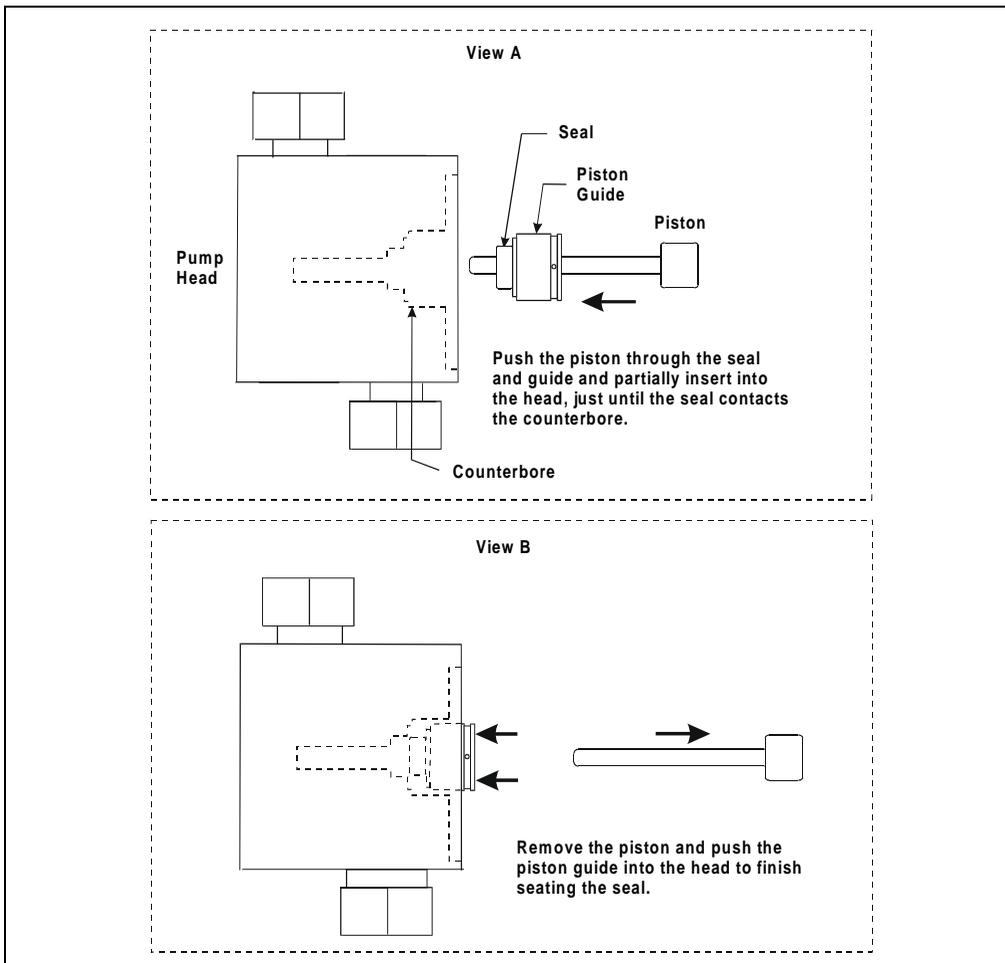

Figure 5-4. Installing the Piston Seal
- a. Push the piston through the piston guide and the new seal. Then insert the piston, piston guide, and seal into the pump head just until the seal makes contact with the bottom of the counterbore (see Figure 5-4, View A).
- b. Hold the piston guide and seal in place and remove the piston from the head (see Figure 5-4, View B).